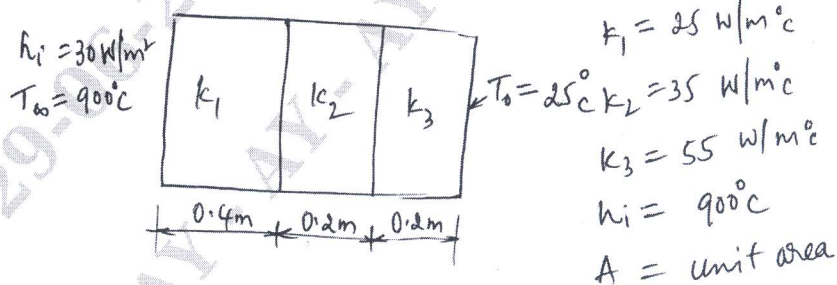

Fig.Q10(b)
b. A composite wall consists of three materials as shown in the Fig.Q10(b). Determine the temperature distribution in the wall. (10 Marks)